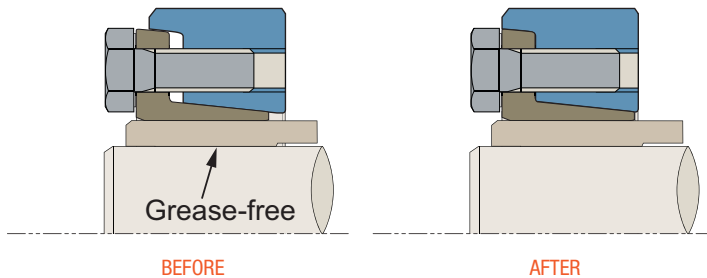

Figure 1
### INSTALLATION (Refer to Figure 1)
7. Tighten locking screws in either a clockwise or counterclockwise sequence, using approx. 1/4 (i.e., 90°) turns for several passes until the faces of the outer ring and inner ring are aligned flush. (See Figure 1 - After)